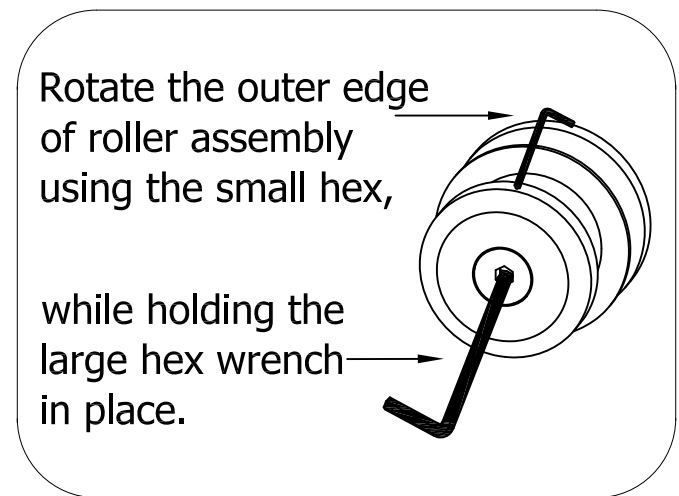

Fig. 21
**Note:** In Fig.21 the hole locations for attaching sliding door track divider should be 1 13/16" from edge of Large Fixed Glass (3).
See Fig.21 for details.